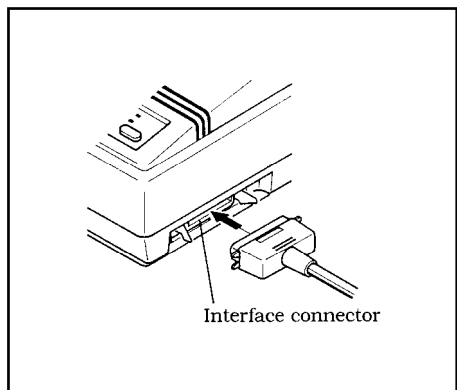

Figure 2-10. Connecting the interface cable.
2. Connect the interface cable to the printer as shown in Figure 2-10.